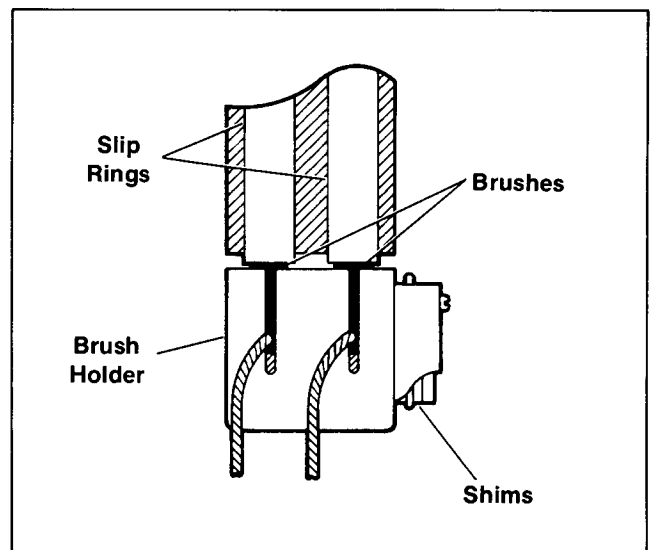

Figure 8-4. Brush Alignment
6. If brush holder was removed, reinstall checking to see that brushes are properly centered on slip rings. Use a necessary amount of shims (Kohler No. 238248) to center brushes on slip rings (Figure 8-4). Remove retainer wire and reconnect brush leads to connector.